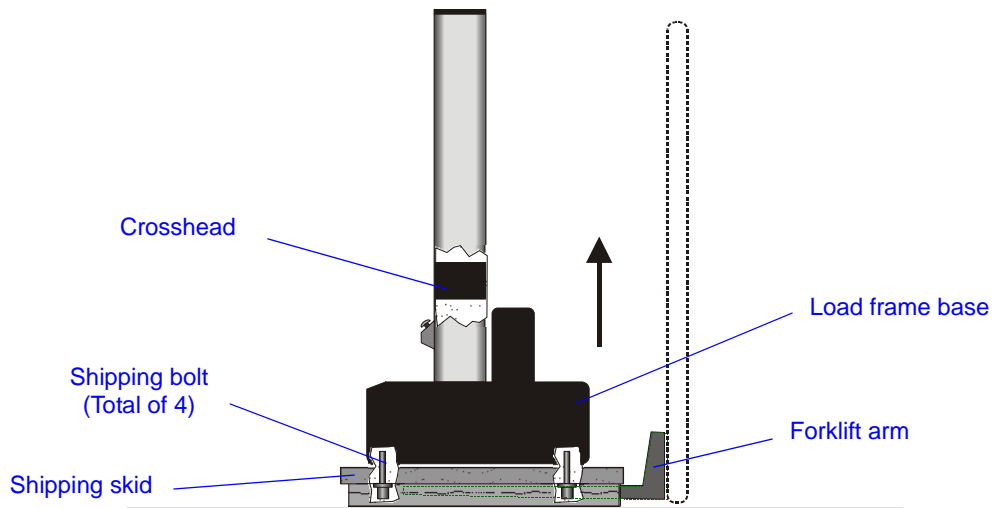

Figure 3-1. Lifting the Frame from the Base
- Frame Base method - Using a forklift to lift the upright load frame from underneath the base with the shipping skid still attached. Refer to Figure 3-1 on page 3-5.
2. Carefully insert the forks under the shipping skid as shown in Figure 3-1 on page 3-5.